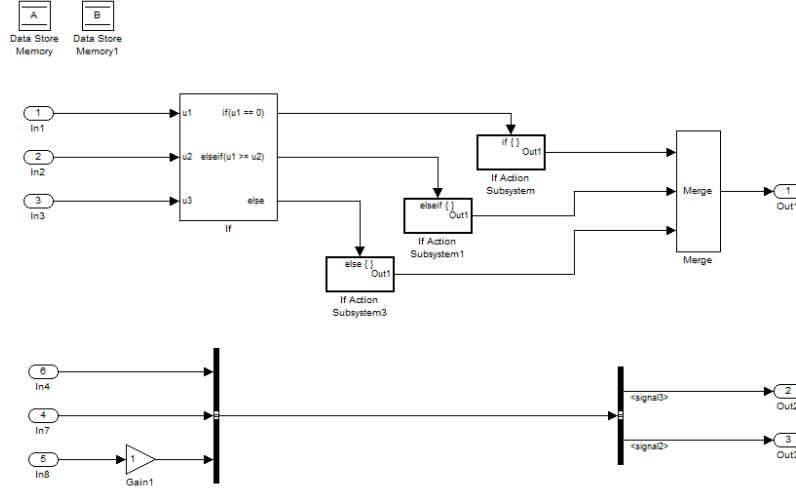

Figure 3: Reach/Coreach demo model
Use the command `ReachCoreachDemo` in the Simulink command window to open the example model, shown in Figure 3. This example has control and data flow pass through **Data Stores**, **If** and **If Action** subsystems, as well as a
2. To clear the highlighting now present in the model due to the previous reach operation, right-click anywhere in the model and select the **Clear Highlighting** option. This will revert the model's appearance to that of Figure 3.